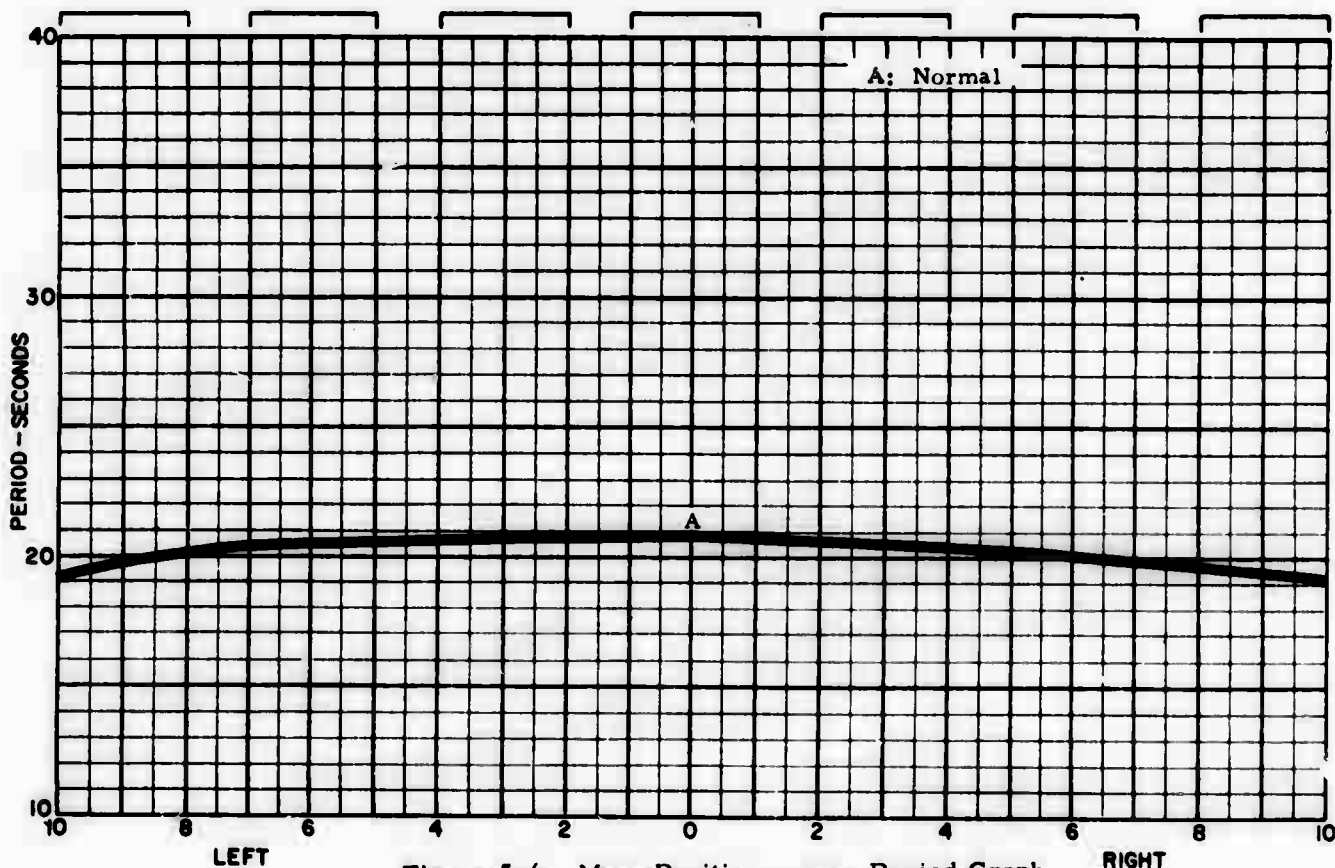

Figure 5-6. Mass Position versus Period Graph
- c. Prepare a chart the same as figure 5-6.
- d. Time the natural period for 7 to 10 different points on the scale. These points are obtained by raising or lowering the right or left leveling screw (this changes mass position). Attempt to time each point between approximately the same voltage readings on the voltmeter. One test point should fall under each bracket at the top of figure 5-6.